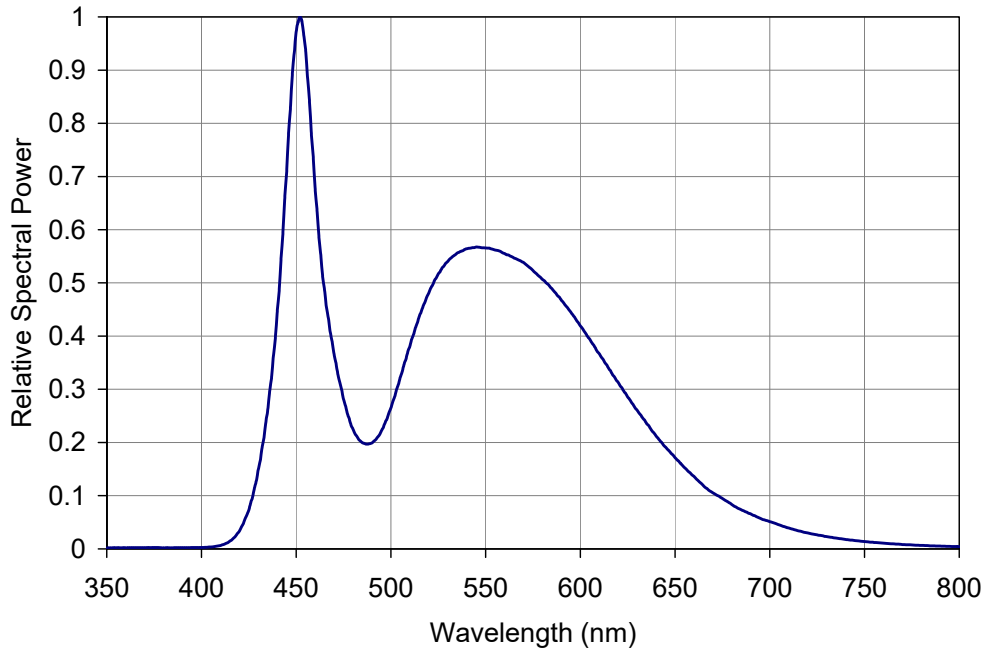

Figure 5: Relative spectral power vs. wavelength @ TC = 25°C.
- Solder conditions per JEDEC 020D. See Reflow Soldering Profile Figure 5.